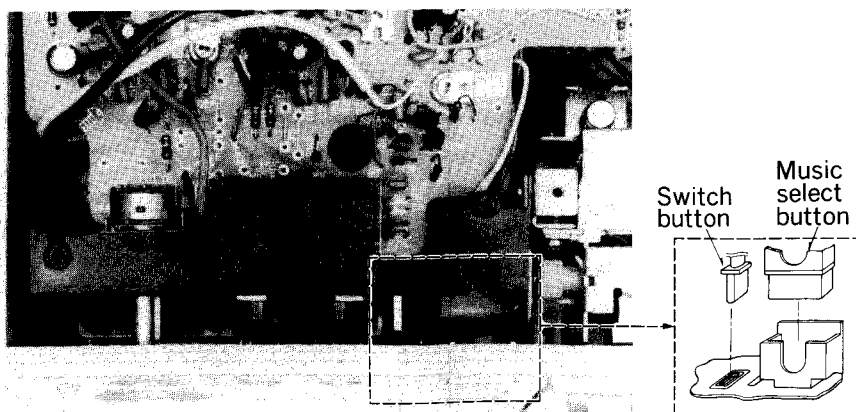

Fig. 22
2. Insert the main circuit board in the direction of the arrow (B) (✗). In this case, the switch button and music select button must be projected from the holes in the main case top as shown in fig. 22.